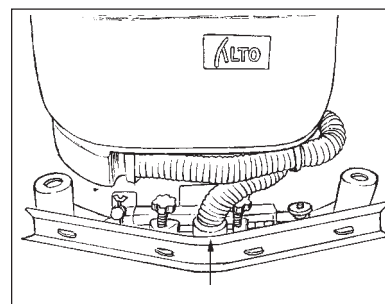

Figure 15
2. Attach the vacuum hose cuff to the squeegee hose fitting (see figure 15).